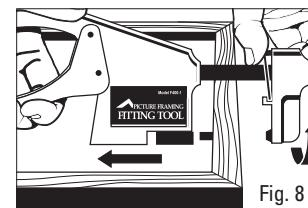

Fig. 8
5. Squeeze lock plate on foot and rotate foot to release (Fig. 8).